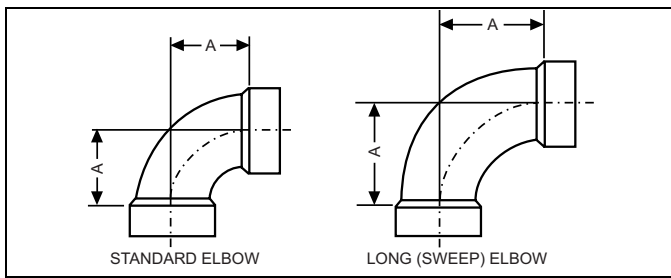

FIGURE 25: Elbow Dimensions
1. Drain, waste, and vent (DWV) elbows with a long radius (sweep) are recommended. Standard DWV elbows may be used, but since they have a longer equivalent length, they will reduce the total length of pipe that will be allowed. Short radius (plumbing or pressure) elbows are not allowed for venting. The standard dimensions of the acceptable elbows are shown in Figure 25.
Elbow	“A” Dimension (Illustrated in Figure 25)